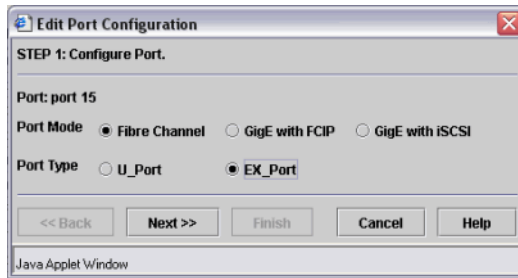

Figure 6-58 EX\_Port configuration: First step
- Here, we choose the **Fibre Channel** protocol for this port, and additionally select that we want it to be an **EX\_Port** (Figure 6-58).